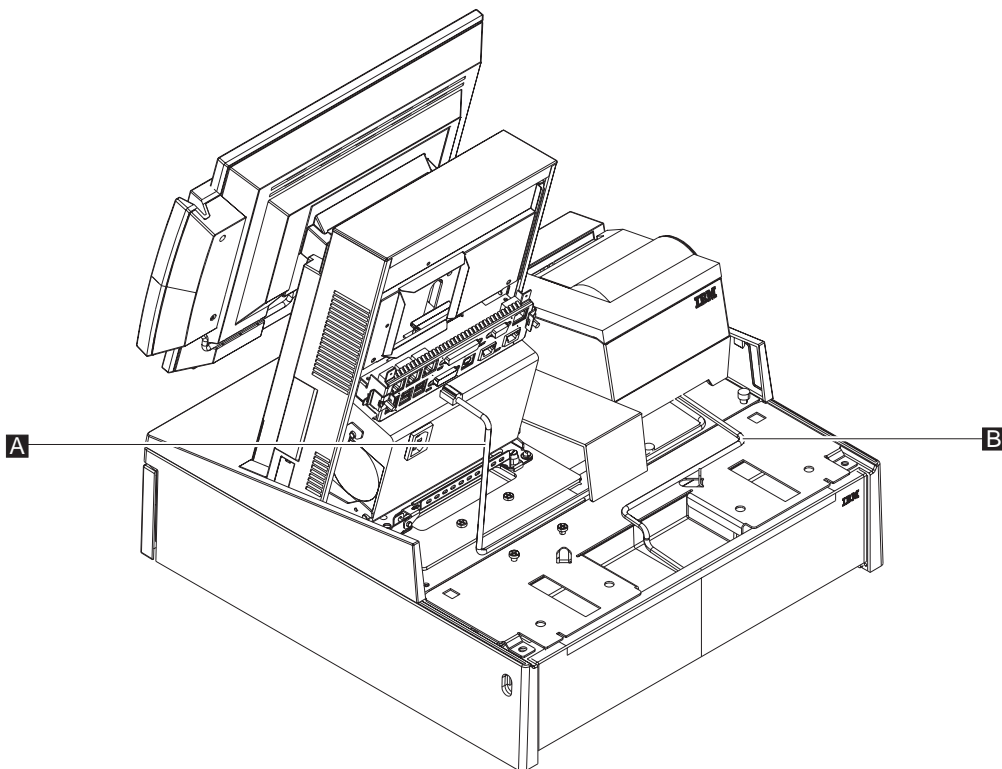

Figure 50. 4610 TF6 or TF7 cable routing
- c. Route the RS-232 cable **A** to the rear connector panel of the system unit as shown in Figure 50. Plug it into one of the three standard serial ports on the system unit.
- d. Route the printer power cord **B** toward the system and out through the hole in the integration tray, as shown in Figure 50.